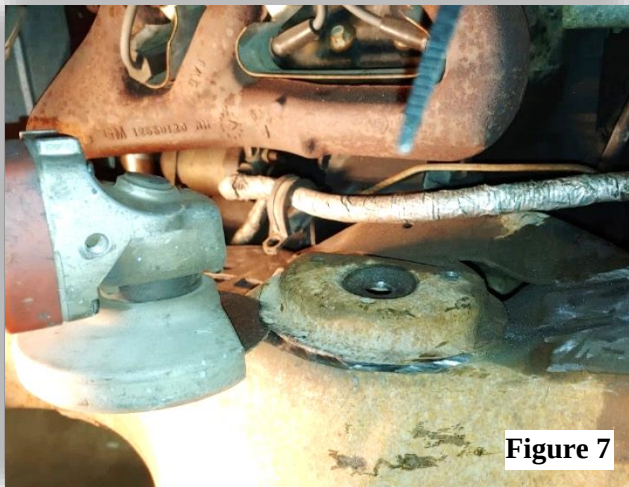

Figure 7
17. Using a cutoff wheel, cut the circular spring perch off flush with the frame. The spring perch is easier to cut off when sectioned. **(Figures 7 & 8)**